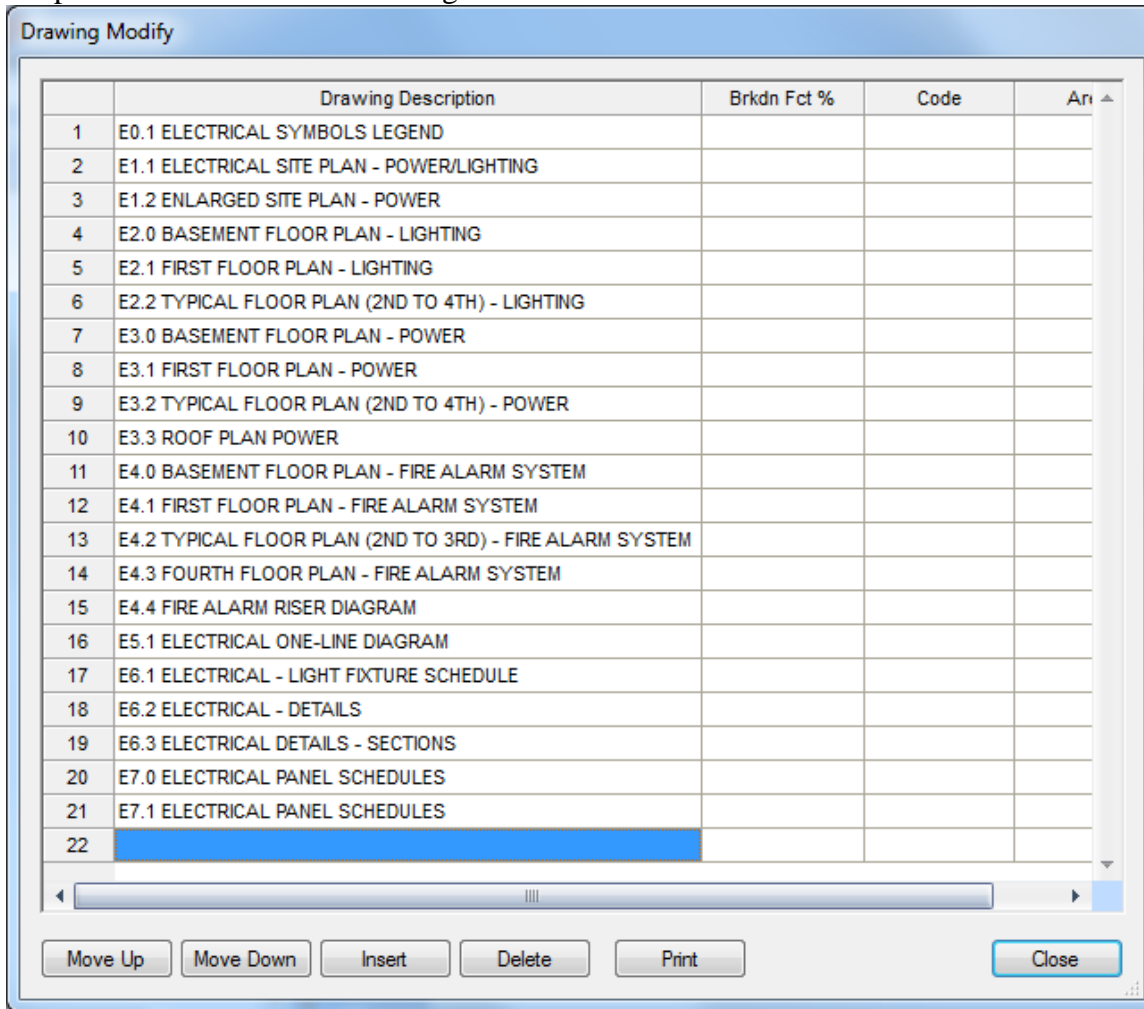

Figure 15
22. Press Enter to move to the next line. Continue adding the names of the Accubid Office Building plans to the list as shown in Figure 15. When finished click the Close button.